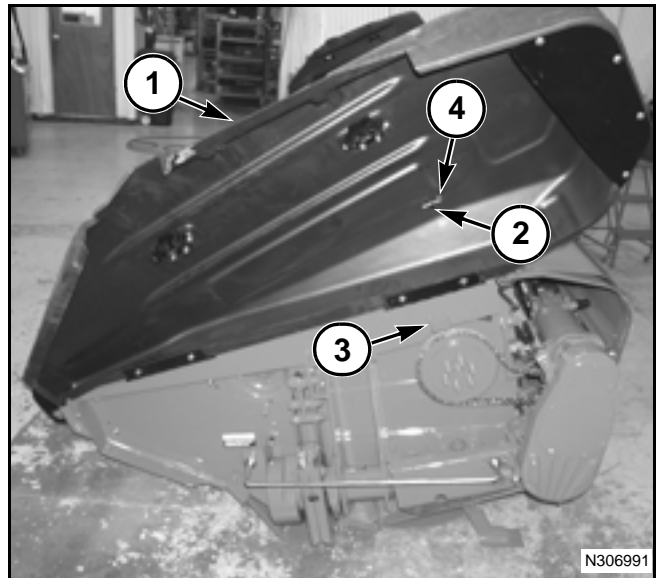

FIG. 8
FIG. 8: To hold an end shield open (1), raise the end shield all the way. Align the hole in the end shield with the pin (2) on the warning lamp. Remove the hairpin from the storage bracket (3). Install the hairpin (4) in the pin on the warning lamp.